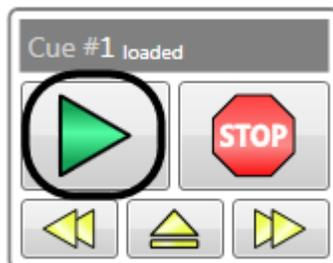

Figure 327
- You can press the **GO** button in the **Cue Controller** in the **Stagehand Editing Pane** (Figure 327).